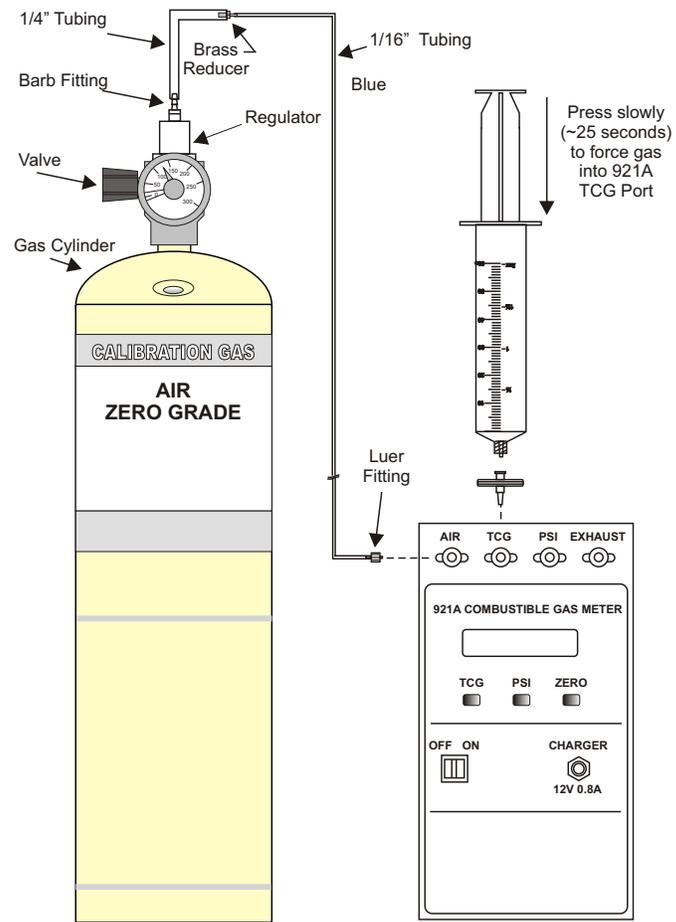

Figure 3.6: Injecting Gas with Syringe
5. Disconnect the Syringe and Particulate Filter from the Transformer Gas Hose Assembly and connect it directly to the TCG port on the 921A (see Figure 3.6).